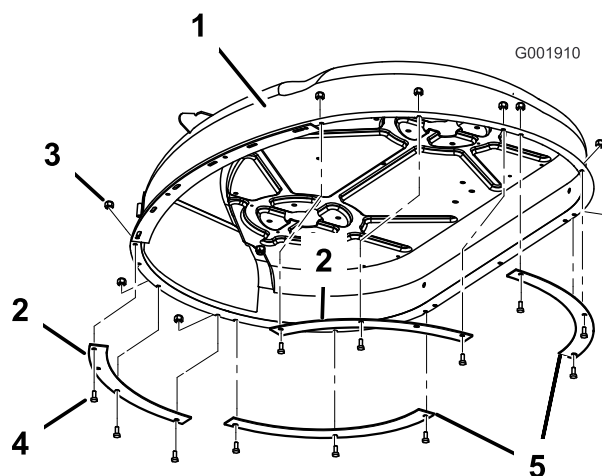

Figure 12
- Install two front ring baffles to the mower as shown in Figure 12. Use 6 bolts (1/4 x 5/8 inch) and 6 locknuts (1/4 inch) to secure the baffles to the mower.
- Install the two rear ring baffles to the mower as shown in Figure 12. Use 6 bolts (1/4 x 5/8 inch) and 6 locknuts (1/4 inch) to secure the baffles to the mower.